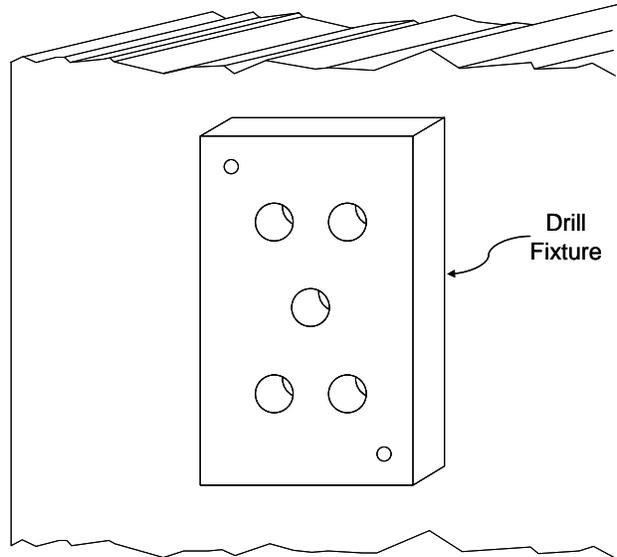

Figure 70: Strain Gage Drill Fixture
- 4) Place the hardened drill fixture provided with the direct mounting strain gage kit in position adjacent to the scribed line. Use a number 3 drill to drill a 5/8" deep hole in the mounting surface through the center hole position of the drill fixture. Tap the hole for a 1/4 x 28 thread. Bolt the drill fixture securely to the mounting area, as shown in Figure 70.